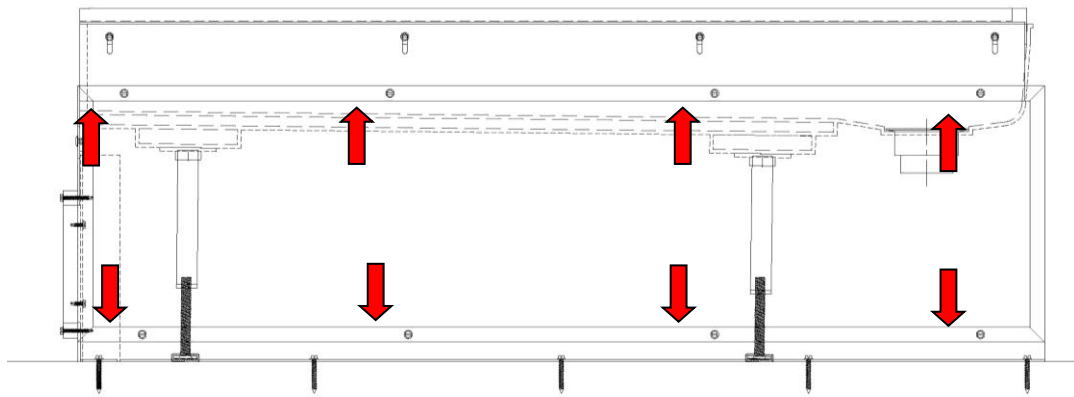

Fig. 45
- Secure 13" Tall Front FRP Trim Panel to 4" Trim Plate and aluminum angle supports using the provided 10 x 1 1/2" TEK hex washer head sheet metal screw(s). See Fig. 45.